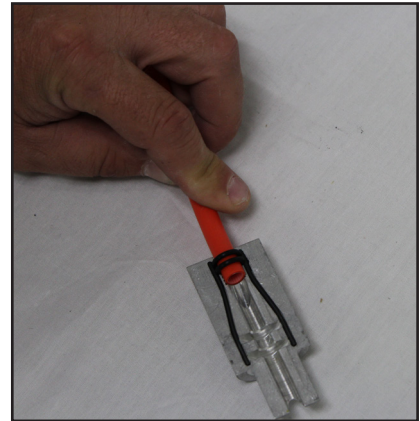

Figure 3. Place Duct in the Bottom Half of the Duct Pack
- Position the micro duct properly into the bottom half of the duct pack. Ensure that O-Rings are seated into the grooves provided in the duct pack. (See figure 3)